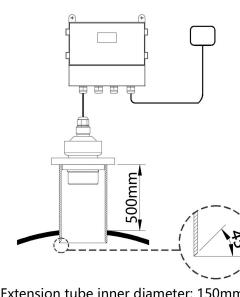
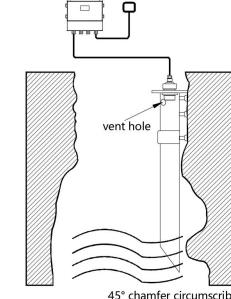
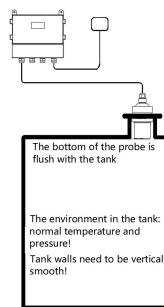

Figure 1
Figure 2
Figure 3
3) If the distance from the probe emitting surface to the highest liquid level is less than the blind area of the purchased instrument, an extension tube is required, and the diameter of the extension tube is $\geq 150\text{mm}$, length 0.2m-0.5m, vertical installation, smooth inner wall, the hole on the tank body should be larger than the inner diameter of the extension pipe. (Figure 1)
4) If the wall of the pool or tank is uneven, there are other obstacles, the water surface fluctuates violently, and there are foams or other impurities on the water surface, the meter needs to follow the guide pipe, or connect the pipe to the bottom of the pool or tank, with a pipe diameter $\geq 110\text{mm}$, Leave a gap at the bottom of the pipe so that the liquid level in the extension pipe is equal to the liquid level in the pool or tank. On the extension pipe, near the probe, open a few small holes so that the air in the pipe can communicate with the outside of the pipe! (Figure 2)
5) For flange installation on tanks at normal temperature and pressure, the probe surface of the instrument is Best exposed in the tank, as shown in Figure 1; if it is not possible in the field environment, the diameter of the pipe fixing the flange is shown in Figure 2 and Figure 3, and the length h is between 100mm-300mm The larger the h value, the larger the corresponding d value.